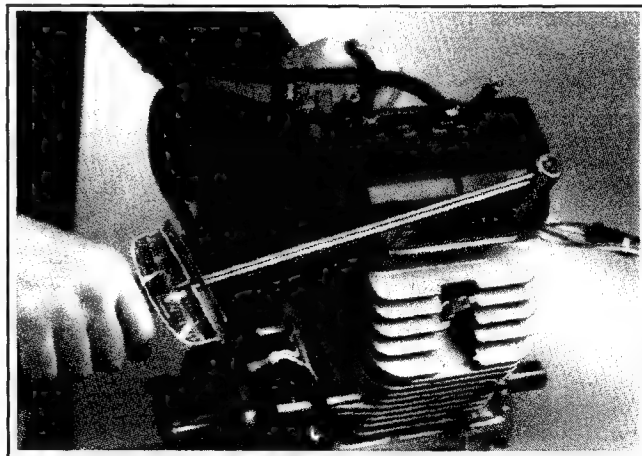
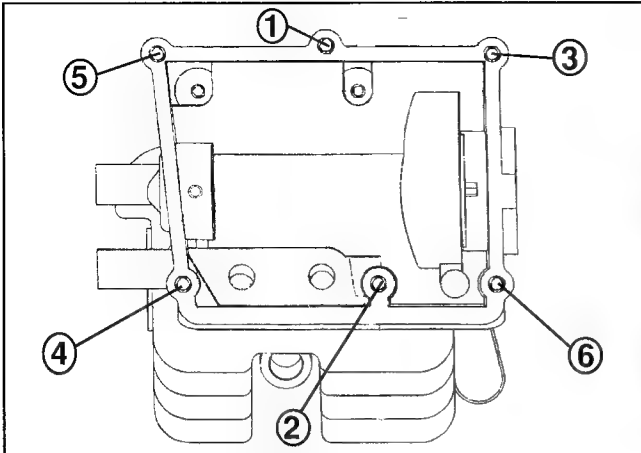

Figure 11-43. Installing Valve Cover - #2 Side.
Figure 11-44. Valve Cover Tightening Sequence - #2 Side.
3. Torque the fasteners to **5.6 N·m (50 in. lbs.)** (see Figure 11-43) in the sequence shown in Figure 11-44.